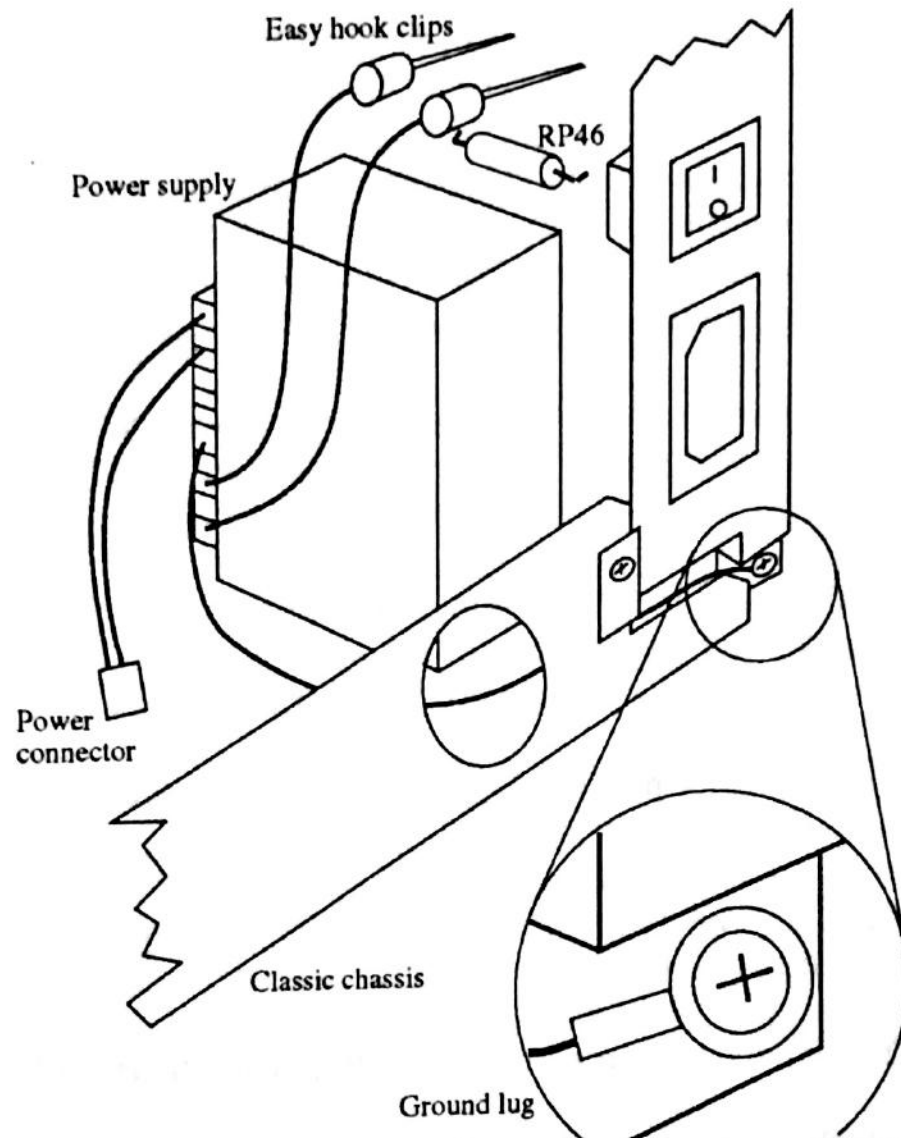

Figure 2 - Power supply
Mac Classic chassis with the cables located toward the CRT as shown in Fig. 2. Line up the two holes in the switching regulator power supply with two of the small square holes in the bottom of the chassis.
4. From the bottom of the chassis, reinstall the two mounting screw and washer sets. This will secure the switching regulator power supply to the chassis as shown in Fig. 2.
6. Connect one of the easy-hook clips to the left lead of RP46 and the other clip to the right lead as shown in Fig. 2. Proceed to step #9.
9. Locate the switching regulator power supply ground wire (usually green with a lug connector on the end) and thread it inside the chassis over to the right side and out through the gap as shown in Fig. 2.
4. Using the notes made during motherboard removal, reconnect all ribbon cables to the motherboard. *Check the other end of the ribbon cables to make sure they are still firmly connected. Refer to Figure 2 for location.*